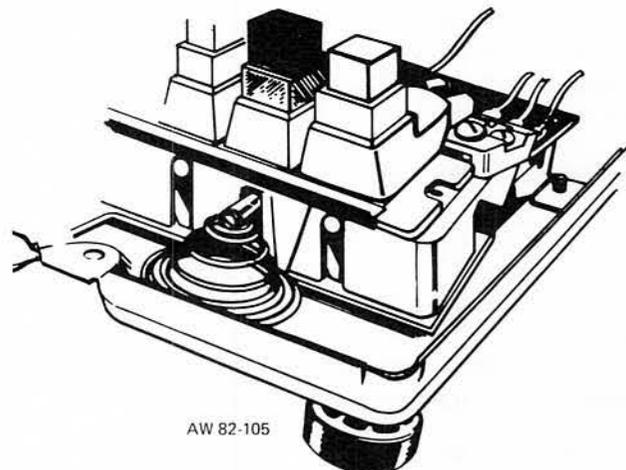

Figure 3: Hold Key To Signal Key Conversion
9.01 Line 3 (terminals 3T and 3R on the key terminal board) is used for manual intercom. The hold key of line 3 may be used for signaling. The signal circuit is connected at the S1 and LG terminals of the key terminal board. A power supply providing talk and signal power must be provided in the respective circuits. To convert the number 3 hold key to the signaling mode, unscrew the interlock screw from the hold plunger approximately eight turns, until it clears the interlock slides. Insert the helical spring (provided with the telephone under the head of the interlock screw) as shown in Figure 3.